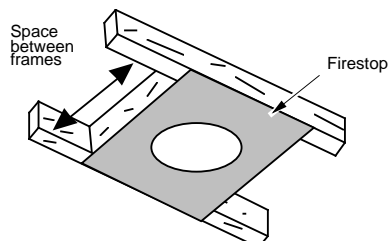

Figure 24
- Whenever the chimney penetrates a floor or ceiling a firestop is required on the bottom side of the floor joists (see Figure 24).